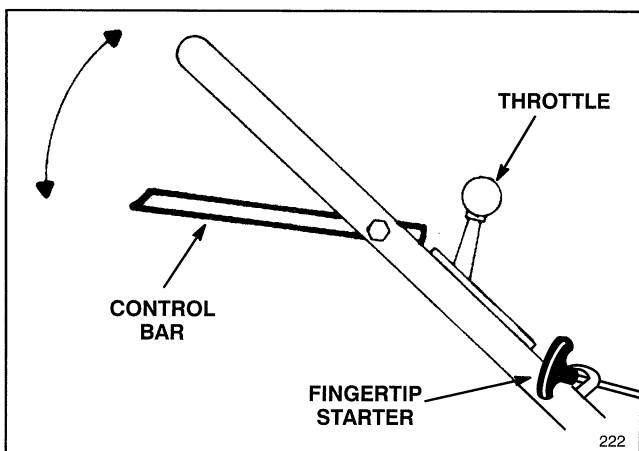

Figure 10
1. **CONTROLS**—Throttle control, control bar, and fingertip starter are on upper handle (Fig. 10).
3. **STARTING**—Move throttle to **CHOKE**. Squeeze control bar against handle. Pull fingertip starter out slowly until positive engagement results; then pull vigorously to start the engine. Regulate throttle as desired when engine starts (Fig. 10).